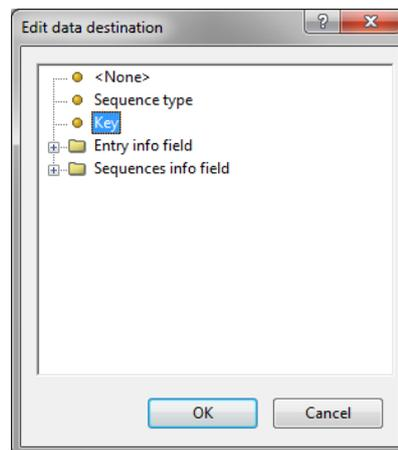

Figure 2: Select destination
6. Double-click on the only line in the grid, or press **<Edit Destination>**. Select **Key** in the *Edit data destination* dialog box (see Figure 2) and press **<OK>**.